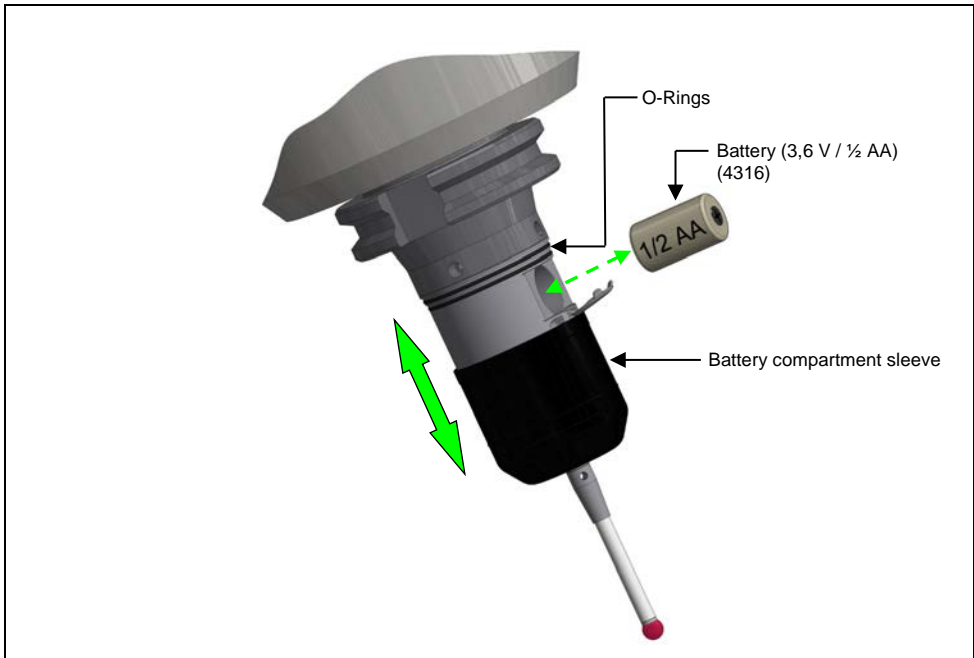

Fig. 8 Replacing battery
1. Carefully slide the battery compartment sleeve down (Fig. 8).
2. Take the used battery out of the battery compartment and insert a new battery (Fig. 8).
3. Carefully slide the battery compartment sleeve upwards (Fig. 8).